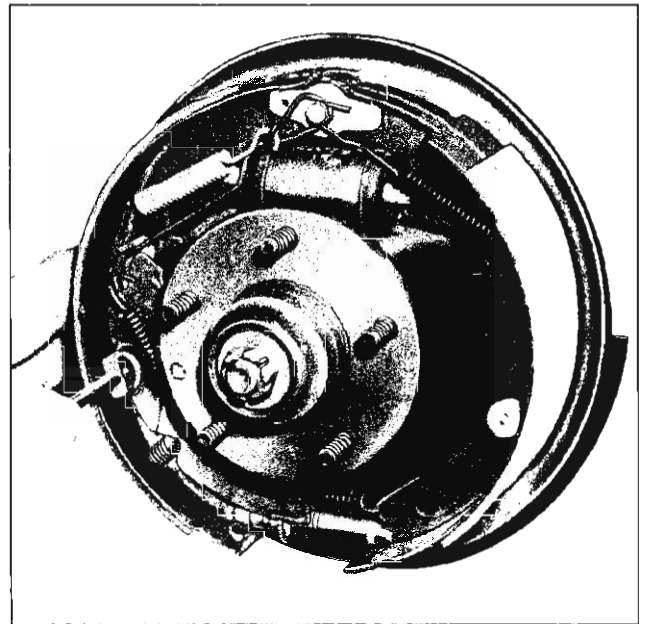

Fig. 6—Removing Hold-Down Springs and Pins
7. Remove hold-down pins and springs (fig. 6).